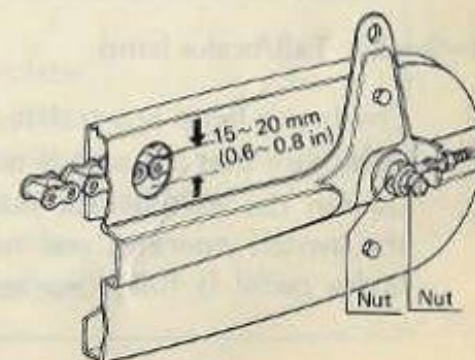

Fig. 13 Drive chain play
- Removing the cotter pin, loosen two nuts shown in Fig. 13.